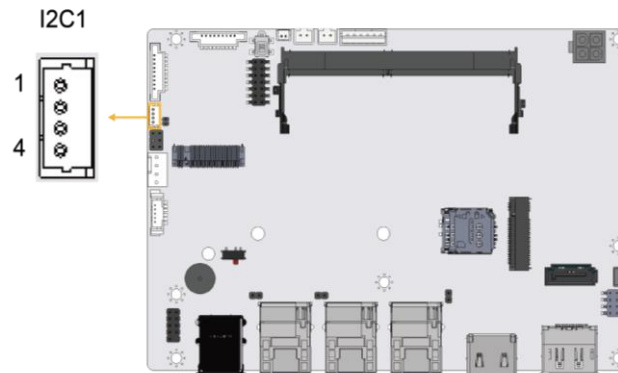

Figure 4-11: SMBus Connector Location
- CN Location:** See **Figure 4-11**